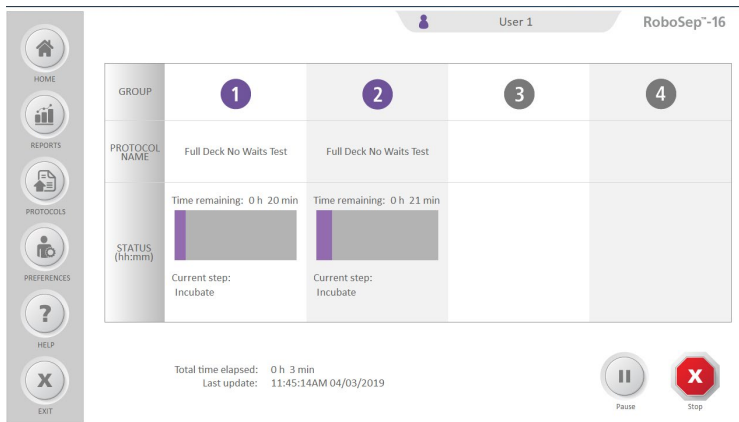

Figure 17. Run Progress Screen
11. Select  [Run] on the Loading Deck screen to start the protocols. A Run Progress screen will appear (Figure 17). RoboSep™-16 homing will occur as well as barcode scanning (section 1.4).